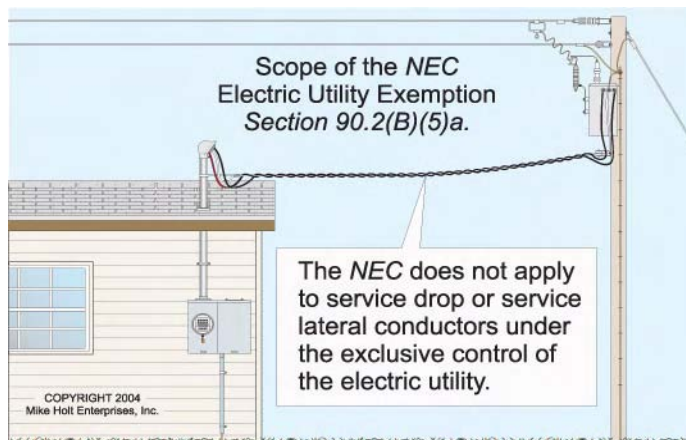

Figure 90-7
- a. Consist of service drops or service laterals and associated metering. **Figure 90-7**